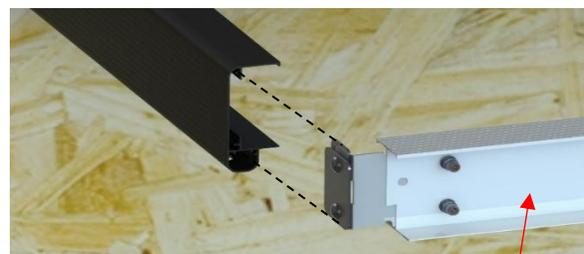

Figure 48
- 7) Slide one I-beam with short I to C connection plates in the C-channels on both side of the middle panel. Place the I-beams in such manner where the bent portion of I to C connection is pointing inwards. (Figure 48, Figure 49 and Figure 52) Ensure they fit snug with foam panel. Ensure the sticker in the I-beam is facing upwards. (Figure 50)